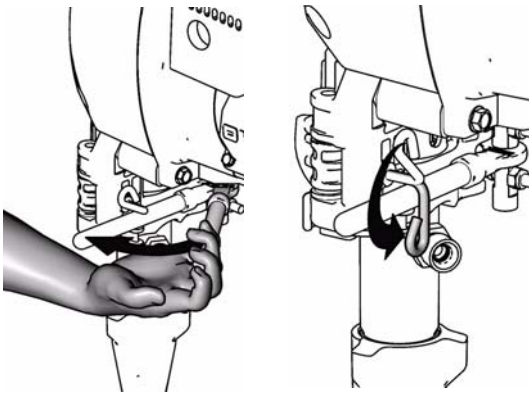

FIG. 23
6. FIG. 23. Tighten latch and rotate latch lock into locked position.